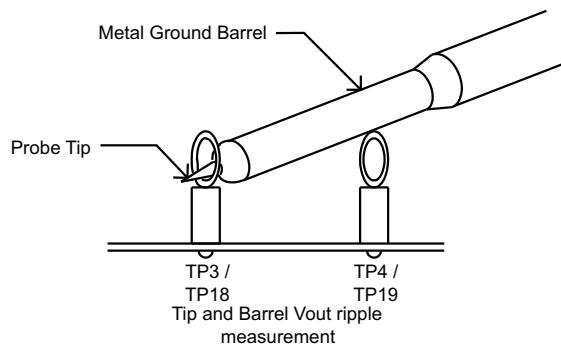

Figure 3. Output Ripple Measurement – Tip and Barrel using TP3 and TP4 or TP18 and TP19
TPS55386EVM-363 provides two test points for measuring the voltage generated by the module. This allows the user to measure the actual module output voltage without losses from output cables and connectors. All output voltage measurements should be made between TP3 and TP4. To use TP3 and TP4, connect a voltmeter positive terminal to TP3 and negative terminal to TP4. For Output ripple measurements, TP3 and TP4 allow a user to limit the ground loop area by using the Tip and Barrel measurement technique shown in Figure 3. All output ripple measurements should be made using the Tip and Barrel measurement. Even this Tip and Barrel measurement technique increases the measured switch edge noise. For improved output ripple measurement, measure the output ripple at the output capacitor (C5)
TPS55386EVM-363 provides two test points for measuring the voltage generated by the module. This allows the user to measure the actual module output voltage without losses from output cables and connector losses. All output voltage measurements should be made between TP18 and TP19. To use TP18 and TP19, connect a voltmeter positive terminal to TP18 and negative terminal to TP19. For Output ripple measurements, TP18 and TP19 allow a user to limit the ground loop area by using the Tip and Barrel measurement technique shown in Figure 3. All output ripple measurements should be made using the Tip and Barrel measurement. Even this Tip and Barrel measurement technique increases the measured switch edge noise. For improved output ripple measurement, measure the output ripple at the output capacitor (C17)
The input voltage source (V_{IN}) should be a 0-15V variable DC source capable of 5Adc. Connect V_{IN} to J1 as shown in Figure 3.
A Digital or Analog Oscilloscope can be used to measure the ripple voltage on V_{OUT1} or V_{OUT2} . The Oscilloscope should be set for $1M\Omega$ impedance, 20MHz Bandwidth, AC coupling, $1\mu s/division$ horizontal resolution, $10mV/division$ vertical resolution for taking output ripple measurements. TP3 and TP4 or TP18 and TP19 can be used to measure the output ripple voltages by placing the oscilloscope probe tip through TP3 or TP18 and holding the ground barrel to TP4 or TP19 as shown in Figure 3. For a hands free approach, the loop in TP4 or TP19 can be cut and opened to cradle the probe barrel. Using a leaded ground connection may induce additional noise due to the large ground loop area.
9. Place Fan as shown in Figure 3 and turn on, making sure air is flowing across the EVM.
5. Connect Oscilloscope Probe to TP3 and TP4 or TP18 and TP19 as shown in Figure 3